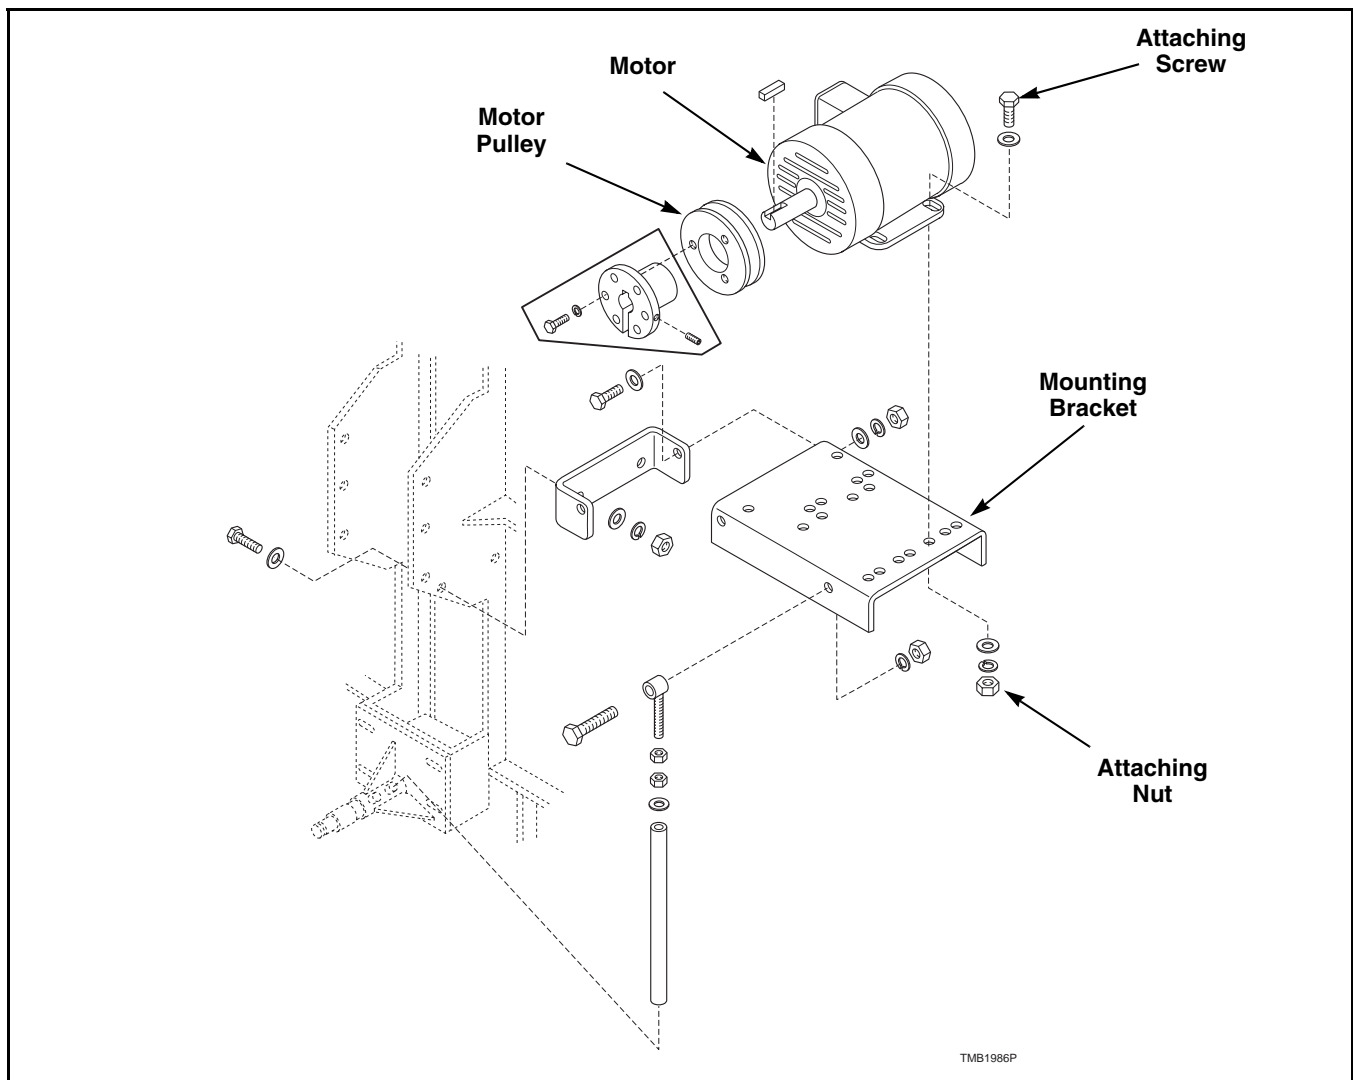

Figure 20
Refer to *Figure 20*.
- c. Mark location of motor on the motor mounting bracket and remove screws and nuts holding motor to mounting bracket. Refer to *Figure 20*.